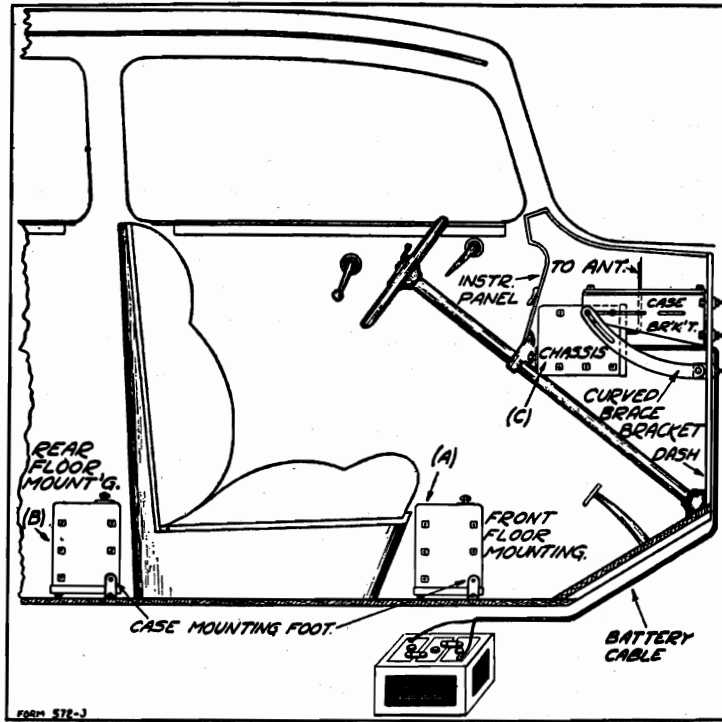

Fig. 1—Integral Mounting—Side View
By integral or all-in-one mounting of the chassis is meant operating the receiver by means of the controls on the chassis box (and not with a separate control unit). This method is the simplest, as no changes are required on the receiver. It can be installed in several ways, as explained below and as illustrated in Fig. 1. Still other methods of mounting and locations for the chassis will suggest themselves, depending on the space available and variations in the construction of different cars.
In Fig. 1(A) is shown how the chassis can be placed on the floor in front of the front seat. There are four rubber mounting feet on the bottom of the box, on which it stands. It may also be placed in back of the front seat (B) so as to be in the rear compartment of the car. In some cars, there is room enough between the two front seats for the chassis box to be placed. In coupes, the chassis may be placed on the shelf in back of the seat. Still other locations, as mentioned above, can be used, depending on the space available in different cars.
mounting. These mounting feet are shown in Fig. 1. One side of the foot, which is a small angle bracket, is secured to the end of the chassis box by means of one of the chassis mounting screws. The other side of the foot is screwed to the floor board or surface on which the chassis is resting, with a wood screw. The two feet are placed diagonally, that is on one end of the chassis box it is at the front, while on the other end it is at the rear.
In Fig. 1(C) is also shown how the chassis can be mounted on the dash by means of brackets, in such a way that the front portion of the box with the controls, is flush, or nearly so, with the instrument panel. This is a very desirable method of installation, as the receiver is rigidly in place, out of the way, and the controls are very accessible.
When mounted this way, two side case brackets (long type) are used, one on each end of the box, as shown in Fig. 1. Two mounting screws are generally used to secure each bracket to the end of the chassis box. Three may be used in cases where the distance between the instrument panel and dash is small. Six embossings with inset nuts are provided on each end of the chassis box. Any two of these or
three, as mentioned above, may be used for the bracket screws, which, together with the slots in the brackets, provides great flexibility in mounting. In addition to the side case brackets, two curved brace brackets and one cross strap brace as shown in Figs. 1 and 2 are used.
it may have to be moved to either side. In some instances, it can be mounted at the center of the instrument panel, but may have to be moved down and nearer to the dash than as shown in Fig. 1. Consideration should be given to the possibility of
When the case brackets are in place, the curved brace brackets can be installed. These can be put on in a number of different ways. The front or back case bracket screw can be used and the brace bracket itself can be mounted upward or downward. As a general rule it is mounted on the bracket screw farthest away from the dash and downward as shown in Fig. 1. The small angle brackets supplied with the receiver are secured at the base of the curved brace brackets as shown in Figs. 1 and 2, by means of the No. 10-32 $\frac{3}{8}$ " Round Head Screw, nut and washer supplied. After the position of the brace brackets is decided on, put them in place and start the holes for them with a center punch. These brackets are bolted to the dash in the same manner as explained above for the case brackets.